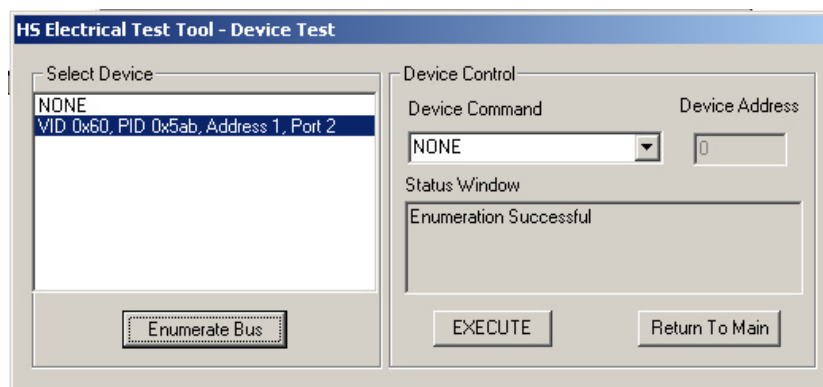

Figure 4. Hi-Speed Electrical Test Tool – Device Test Menu
8. Select Device and click the [TEST] button to enter the HS Electrical Test Tool - Device Test menu (Figure 4).